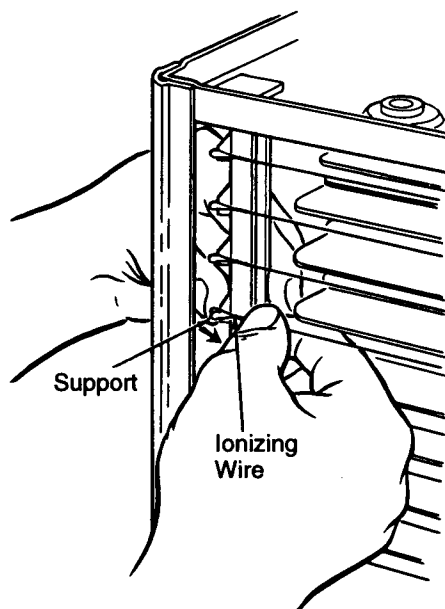

Figure 22
3. Hold your finger against the support at the other end (Figure 22) and hold the ionizing wire between thumb and forefinger as shown or use needle nose pliers. Press inward on spring support. Hook end of wire over small tab at end of support and release. Make sure wire is securely anchored at each end.